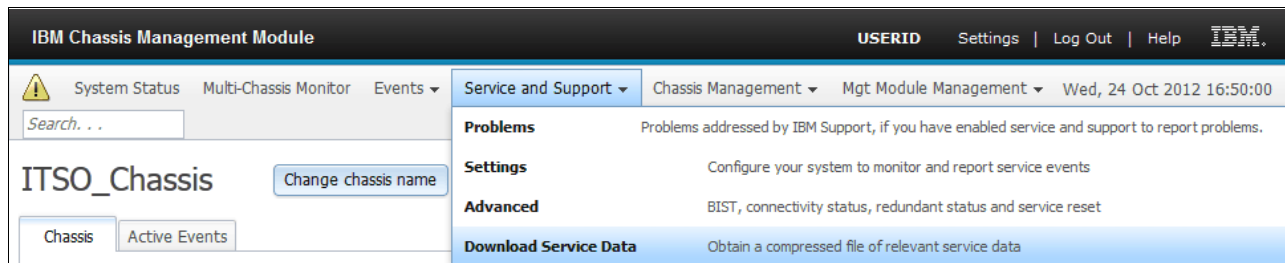

Figure 3-34 CMM - Service and Support - Download Service Data
- From the top menu, select **Service and Support** → **Download Service Data**, as shown in Figure 3-34.